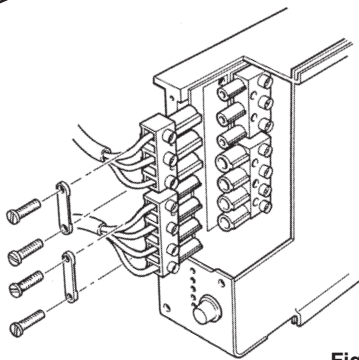

Fig. 105
4. Release the supply and pump feed cables from the cable clamps and unplug the connection blocks from the circuit board (Fig. 105).